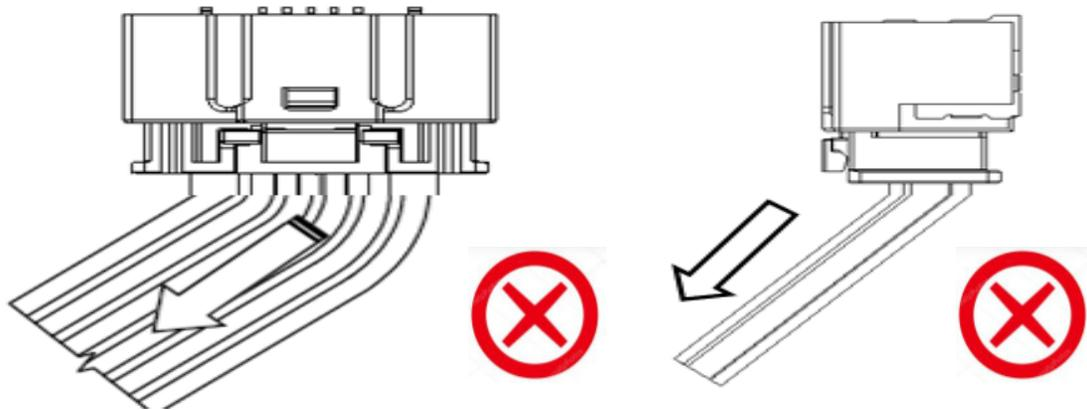

Fig 9.3.2 Condition wires are bend excessively or tension is added
- When pulling wires around inside actual machine, please do not use under the condition that wires are bent excessively or tension is added. That might be reason for terminal to be pulled out because force is added to terminal crimping zone or terminal insertion portion of receptacle by wire tension. Especially, please prevent force from being applied to only a few particular wires. (Fig 9.3.2)